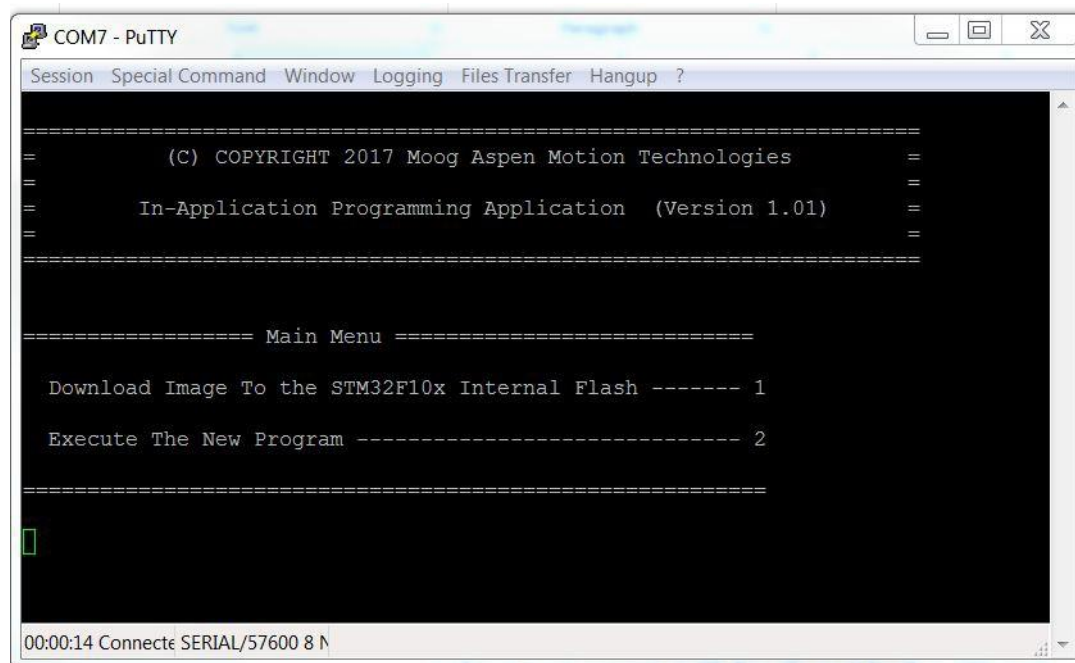

Fig. 10. Programming menu.
- (5) Fig. 10 shows the Session screen with the programming menu. Selecting “1” will start the familiar march of “C’s across the screen. Click on “Files Transfer” in the top menu, select “Ymodem” and Send. A window will open allowing you to browse to and select the “.bin” binary file to be programmed. After selecting the programming file, click “Open”.